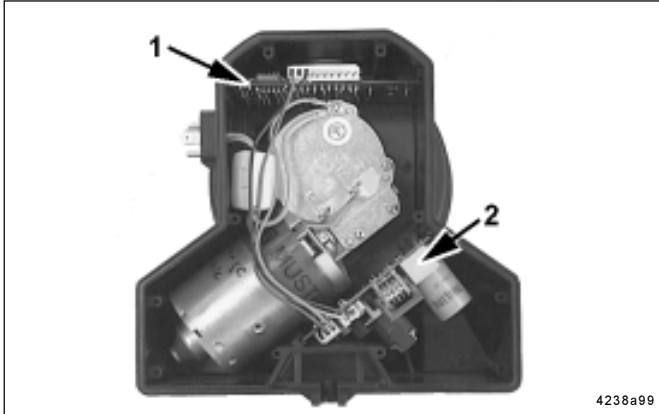

Fig. 21 - Printed circuit board in the pump housing.
- The printed circuit board 1 fig. 21 and the power supply board 2 are integrated in the pump housing.